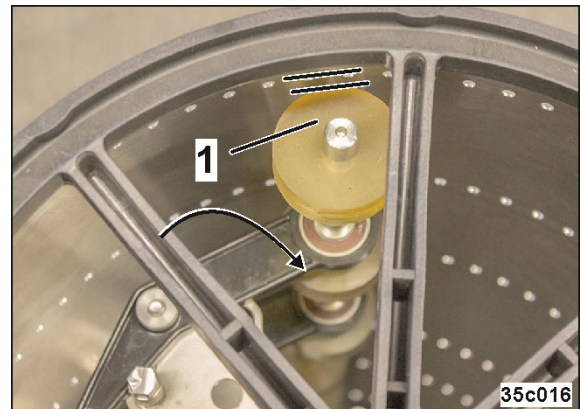

Fig. 287
4. The actuation levers (Fig. 284/2) are swivelled towards the turning axle on one side, and there is space between the hole covering rollers and the singling drum (Fig. 287/1)